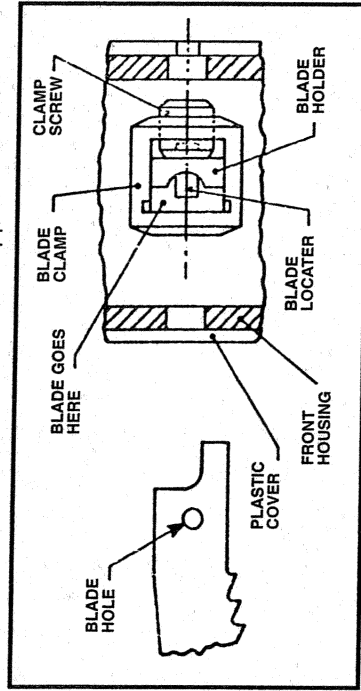
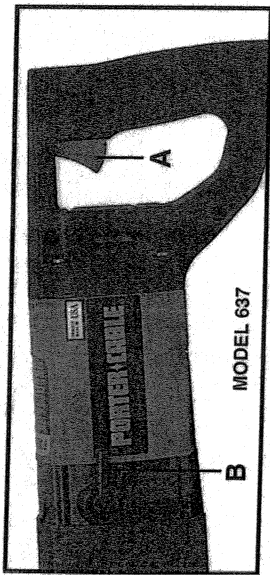
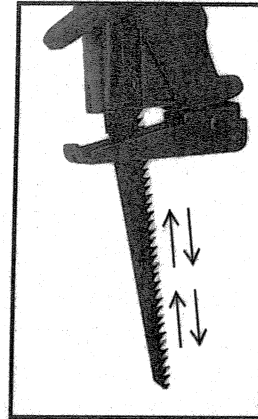
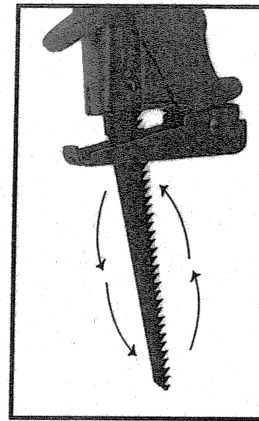

Fig. 1
Fig. 2
Fig. 3
Fig. 4
Looking into the front end of the saw (Fig. 1), insert blade in blade area, make sure locator pin engages in blade hole and teeth of blade are facing in the direction as shown in Fig. 3.
2. Squeeze trigger switch (A) Fig. 2, to start motor. Release trigger to stop motor.
Your saw has dual motion. You can have a choice of straight reciprocating motion, as shown in Fig. 3, or orbital motion, as shown in Fig. 4, simply by flipping shift lever (B) Fig. 2. When the lever is in the "WOOD" position, pointing toward the rear of the saw, the blade motion is orbital and recommended for wood cutting. When the lever is in the "METAL" position, pointing down toward the bottom of the saw, the blade motion is straight reciprocating and recommended for cutting metal.